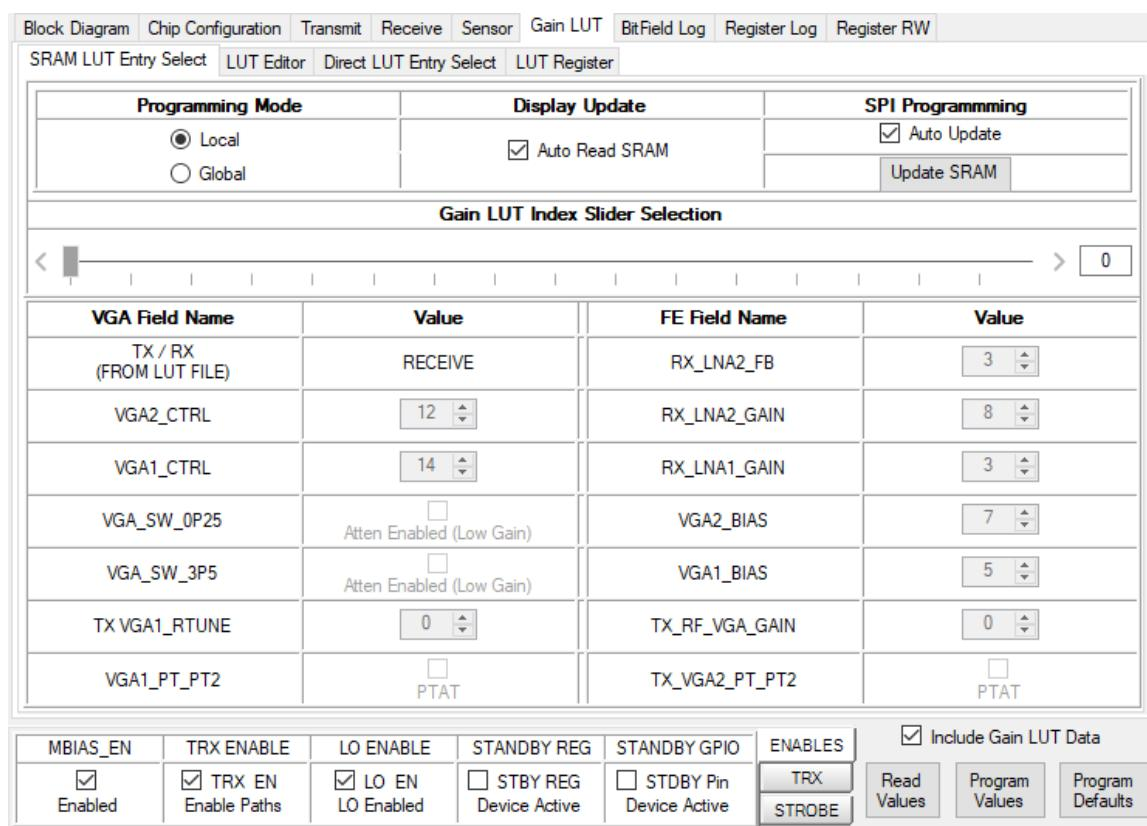
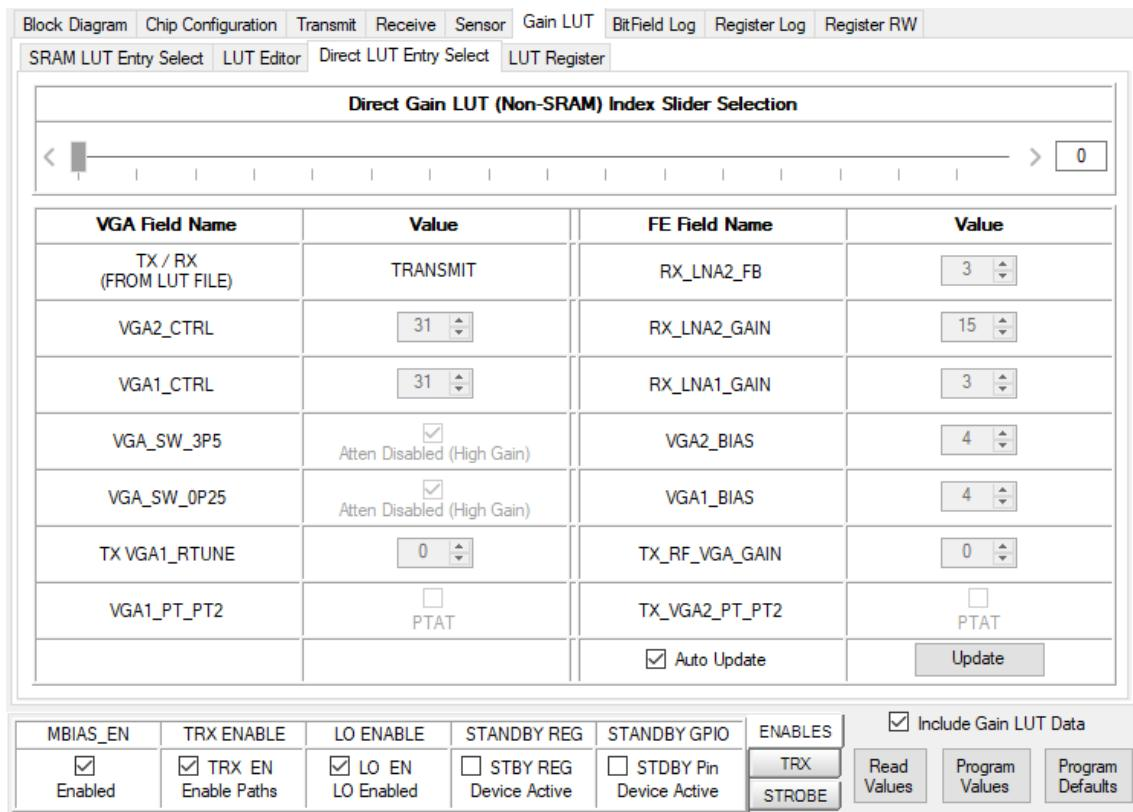

Figure 20. Gain LUT: SRAM LUT Entry Select
Figure 22. Gain LUT: Direct LUT Entry Select
16. Figure 20 shows the **SRAM LUT Entry Select** panel. Use the slider to select any gain LUT index loaded on the SRAM, or similarly on the **Direct LUT Entry Select** panel (Figure 22) without accessing the SRAM.